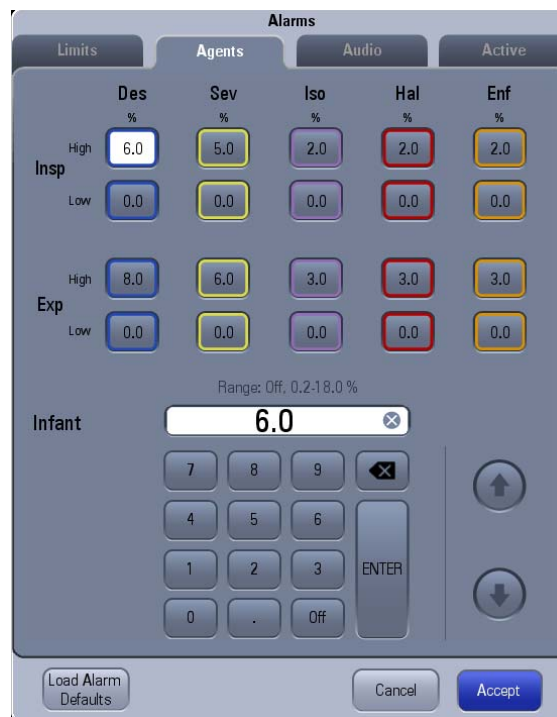

FIGURE 8-3 Agents Tab
2. Select the **Limits** tab (see FIGURE 6-8) or **Agents** tab (see FIGURE 8-3).